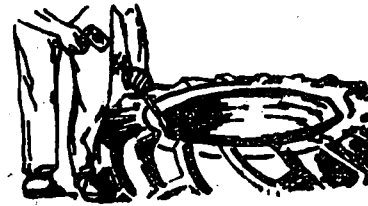

Fig. 3
- e) Place a tyre lever between the bead and the flange of the rim (Fig. 3).